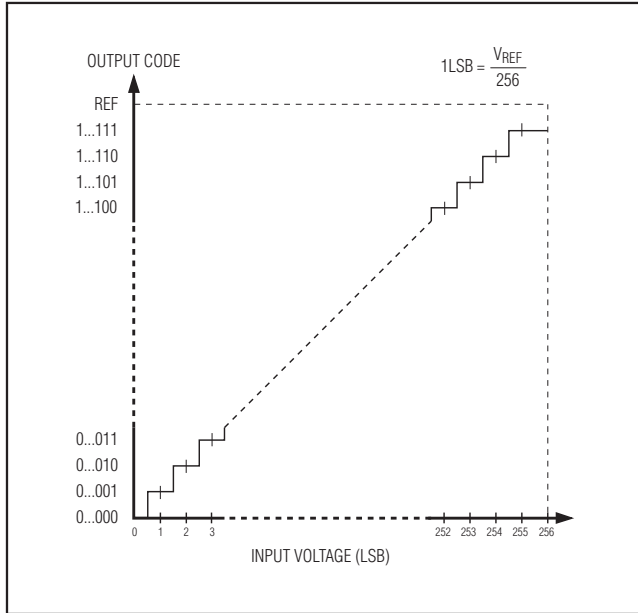

Figure 12. Unipolar Transfer Function
Output data coding for the MAX1036–MAX1039 is binary in unipolar mode and two's complement binary in bipolar mode with  $1\text{LSB} = (V_{\text{REF}}/2^N)$  where N is the number of bits (8). Code transitions occur halfway between successive-integer LSB values. Figures 12 and 13 show the input/output (I/O) transfer functions for unipolar and bipolar operations, respectively.